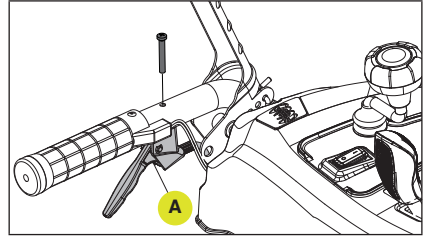

Figure 72
1. Remove left, right or both right triggers (A) from their respective handles as shown. Shown is the left trigger. (Fig. 72)